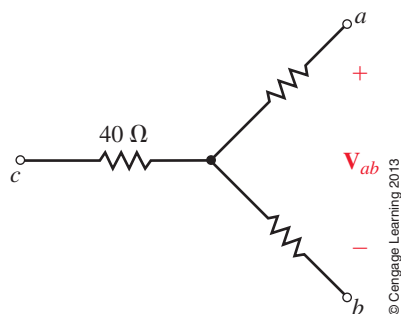

FIGURE 24-50
32. For the balanced load of Figure 24-50, $V_{ab} = 600 \text{ V}$. Determine per-phase and total active, reactive, and apparent power.